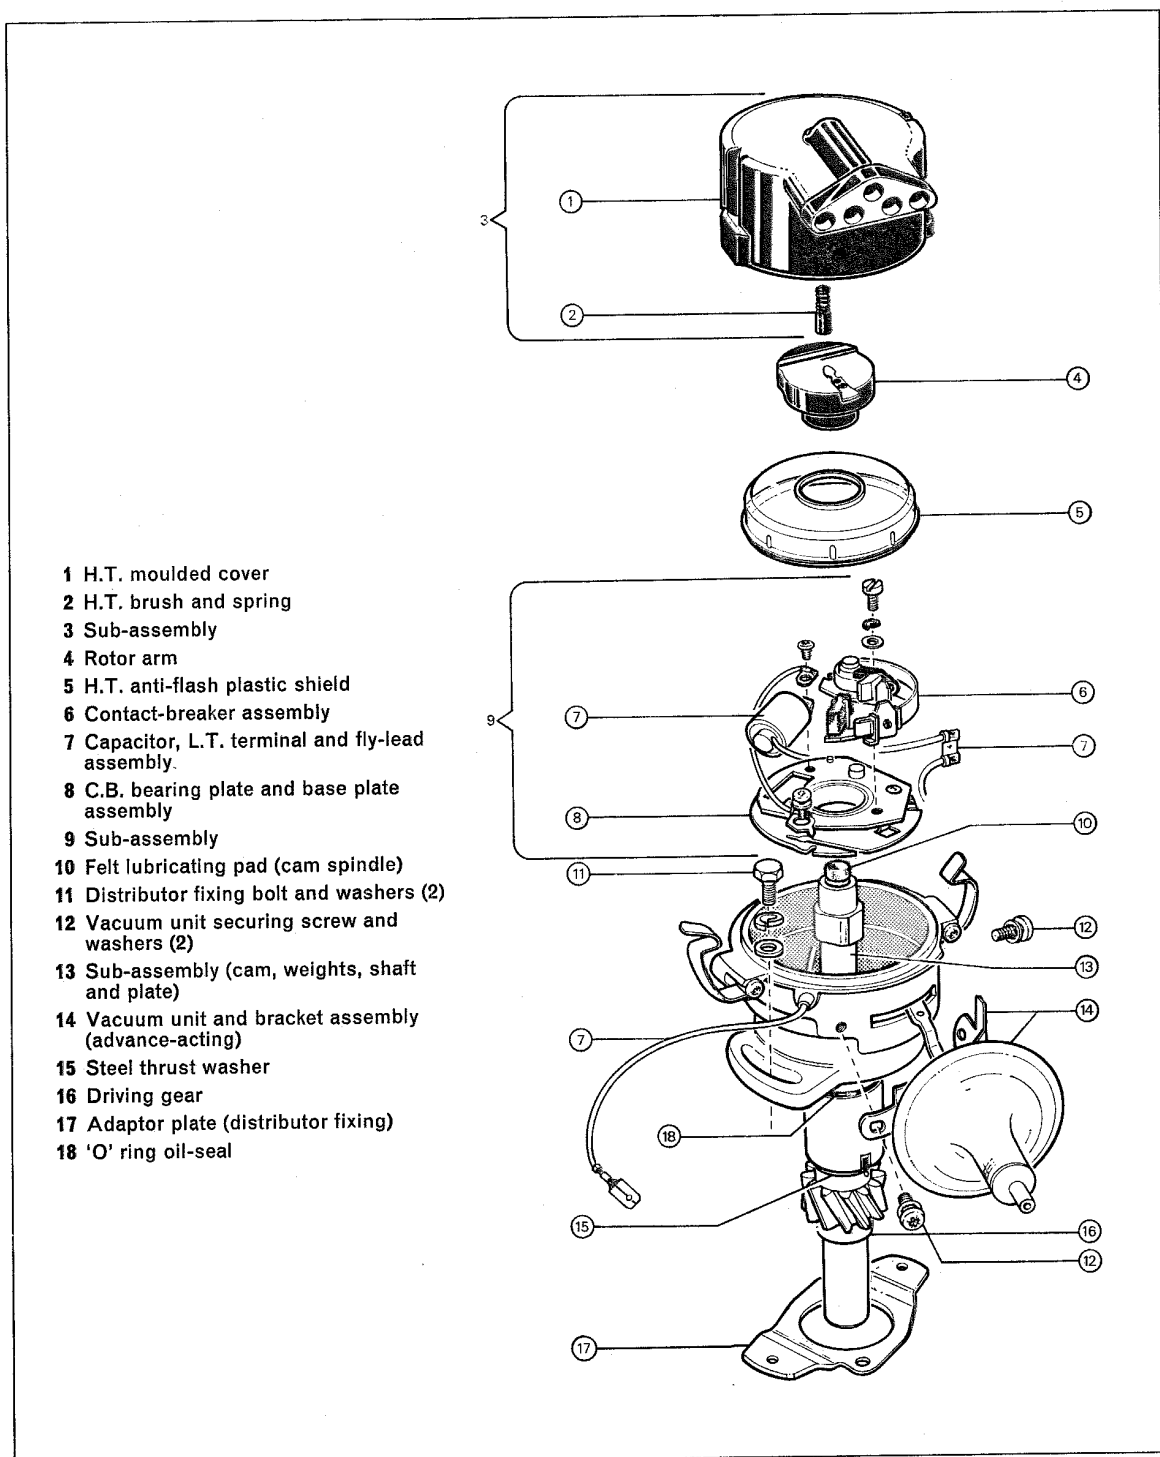

Fig. 3 Early-design model 44D distributor (Part No. 41402)
Note: Same as Fig. 3 except for item 8 and body and cover design
(ii) Model 44D (Figs. 3 and 4)
- (ii) Fitting an additional securing screw in the contact-breaker bearing plate of early-design model 44D distributors (fig. 3 and Text 4(a), part (iii) refers). The additional screw and associated washer must be the same as the original fitment: Screw 54123366 and Washer 129066, obtainable by special order through LUCAS depots and agents.